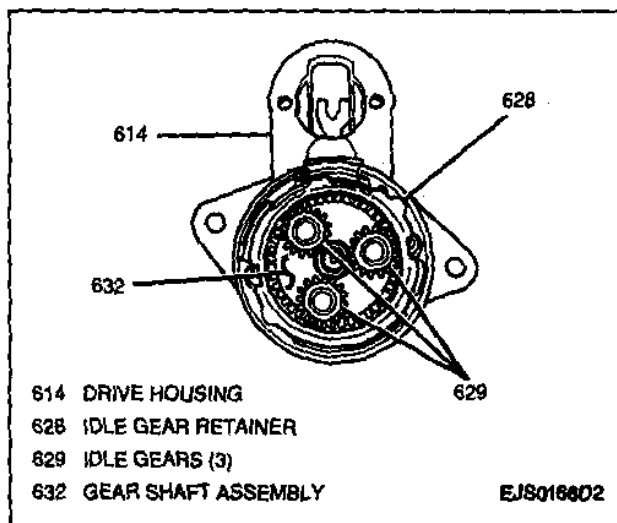

Figure 16—Removing Idle Gear Retainer and Idle Gears
5. Idle gear retainer and idle gears from gear shaft assembly (Figure 16).